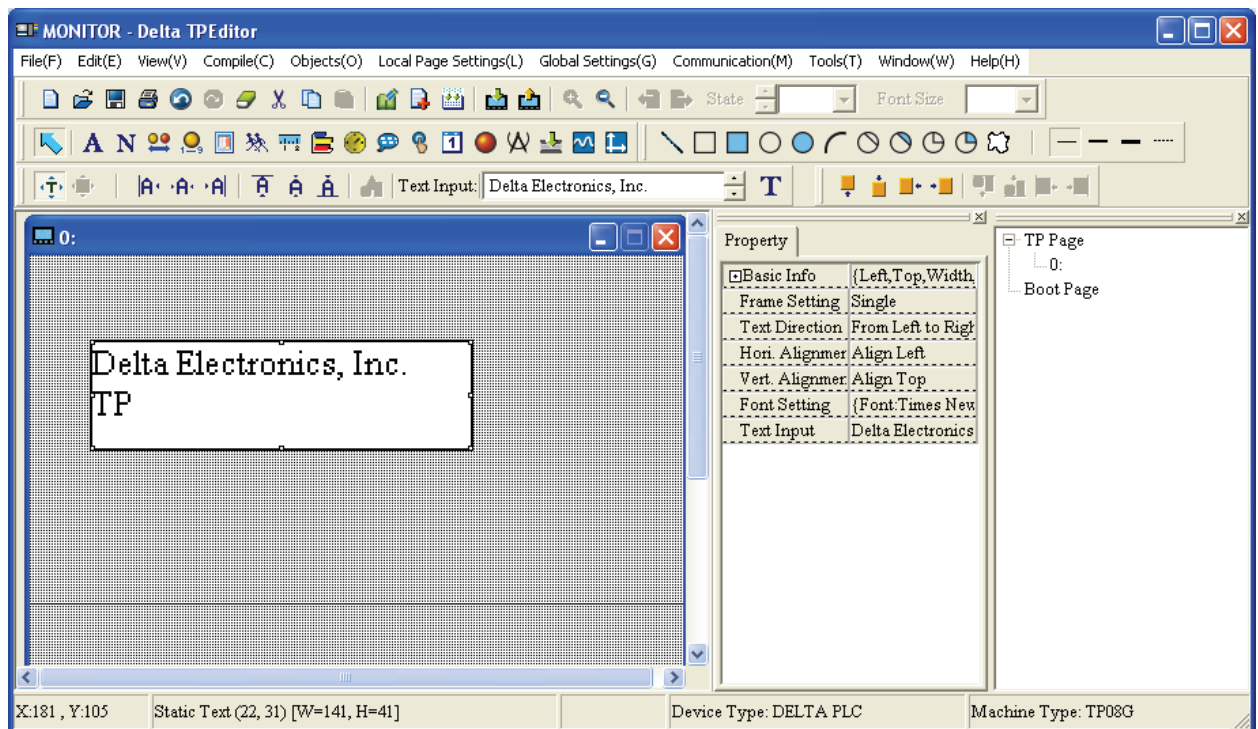

Figure 1-62
Step 4. After complete Static Text settings, the users can get the screen like Figure 1-62 below. If the text could not be displayed completely, the users could enlarge the size of text square. Click **View(V) > Object Inspector** command from the menu bar , a Property tab will show up on the screen and display all the properties of the static text object. The users also could change the settings of the static text object directly by using the drop-down lists in Property tab.